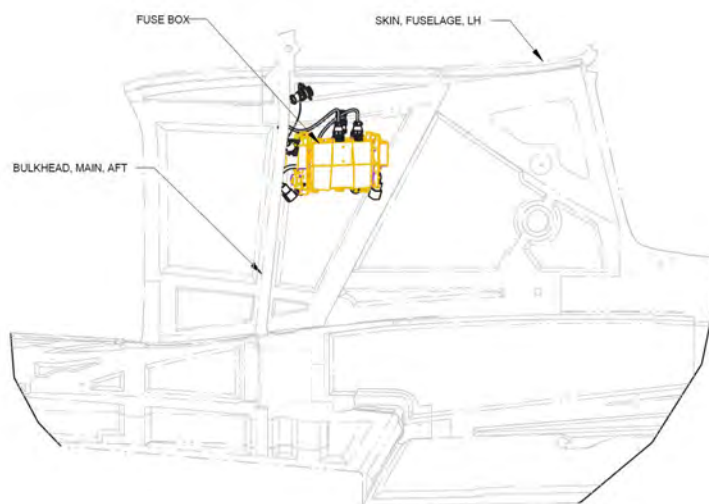

FIGURE 17-49
2. Locate the fuse box in front of the AFT bulkhead, LH as shown in Figure 17-49.